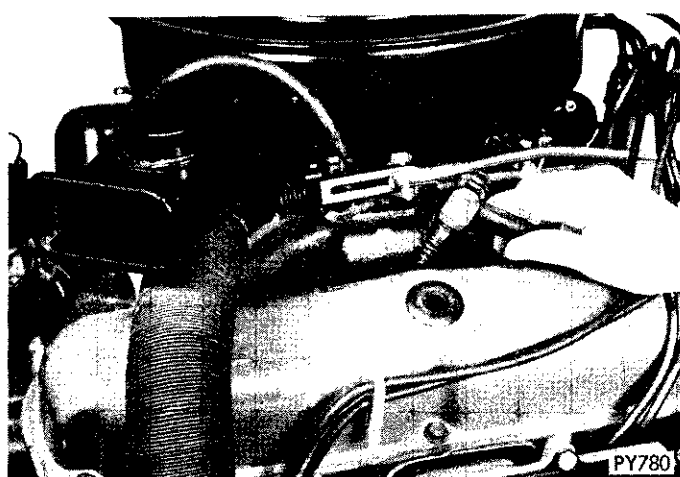

Fig. 19—Shaking Ventilator Valve
1. Remove ventilator valve from rocker cover and shake (Fig. 19).